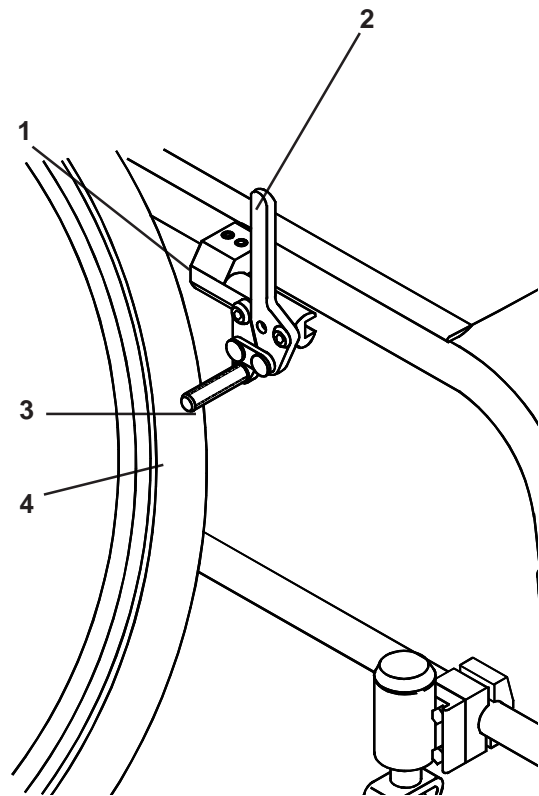

Fig. 28
The wheel locks (Fig. 28) mount on a clamping system (1) and are correctly set prior to leaving the factory. To apply the wheel lock simply push the operating lever (2) forwards until you feel it go over centre, and the grip bar (3) grips the tyre (4).